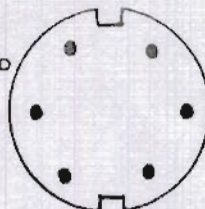

FIGURE 3a -
- 4) Drill radiator cap top with holes for coolant passage. I used a 5/32" (figure 3a).